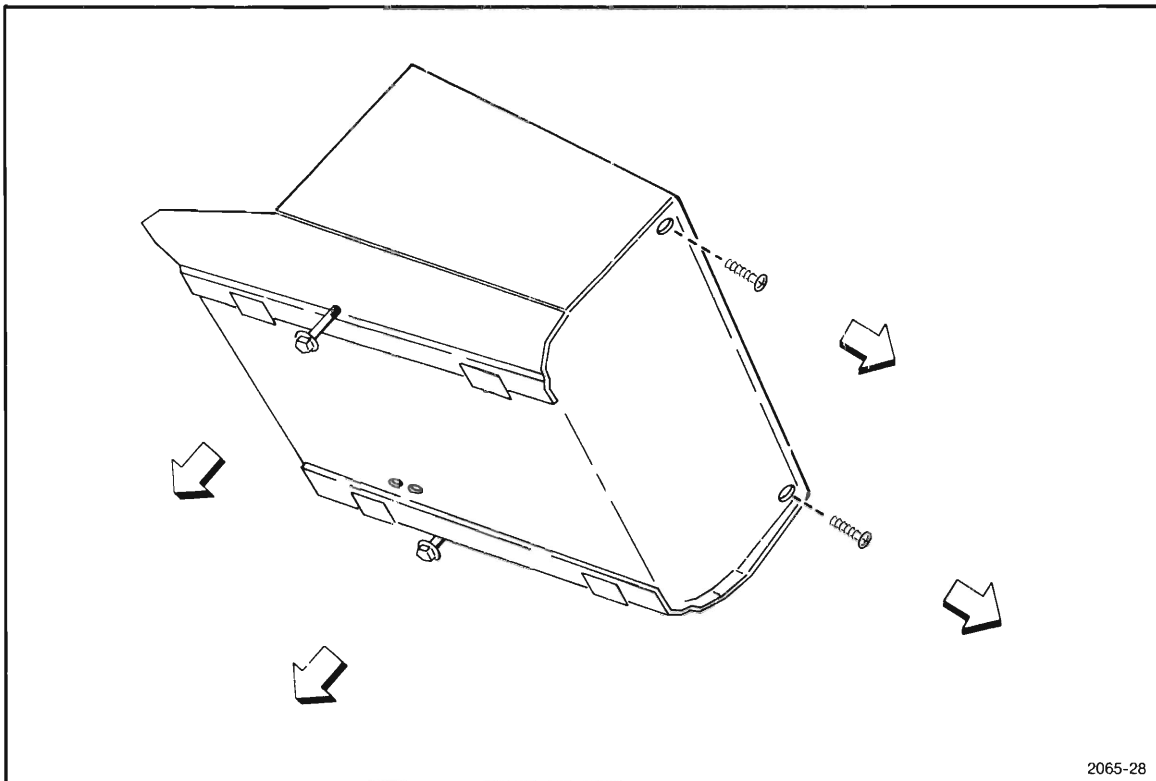

Figure 3-9. 4052 Cover Mounting Bolts.
2. Unplug the power cord (Figure 3-9). Loosen the two bolts on the lower sides the 4052 using a 5/16" hex driver. Remove the two rear screws that secure the cover. Use a #2 Phillips screwdriver.